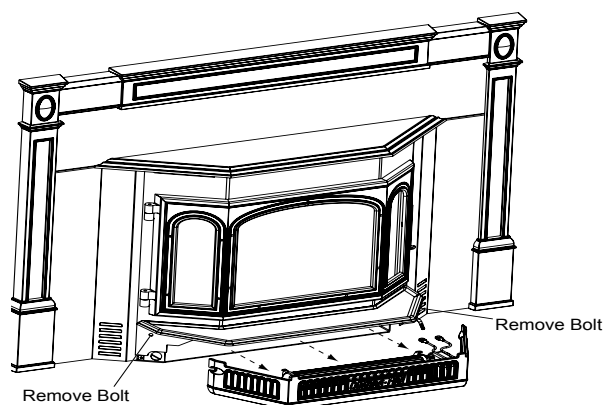

Figure 15D
1. Remove bolts from both sides of the insert and slide the lower cast cover towards you. **See Figure 15D**